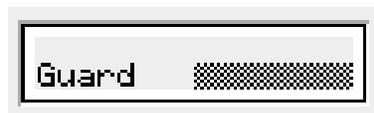

Figure 3-84 Security Application Begin Display
75. The data collector shows the application’s beginning display (Figure 3-84).